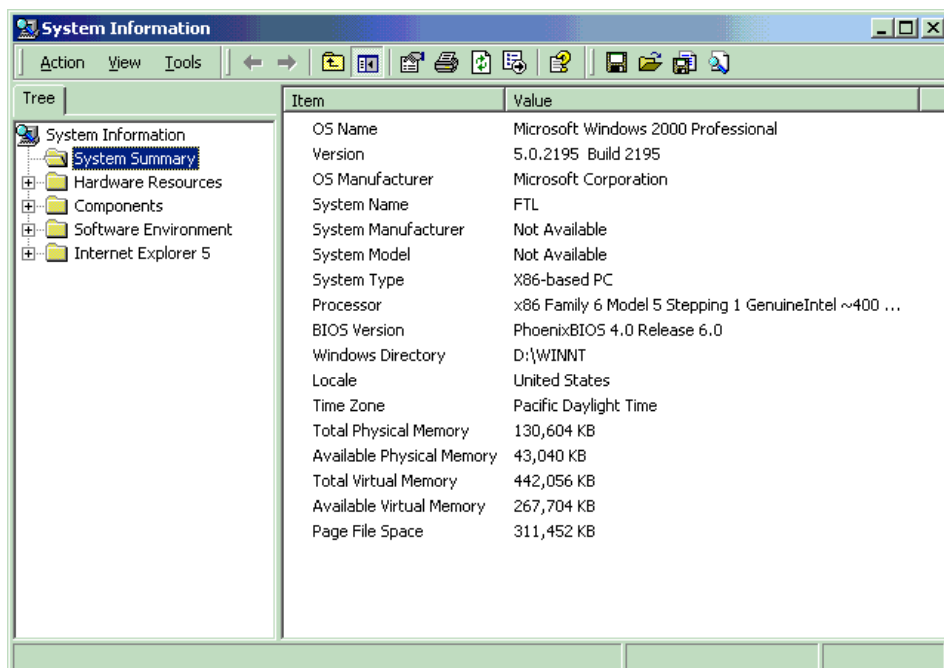

Figure 155. System Information Window
2. Double-click **System Information**. The System Information window opens (Figure 155).